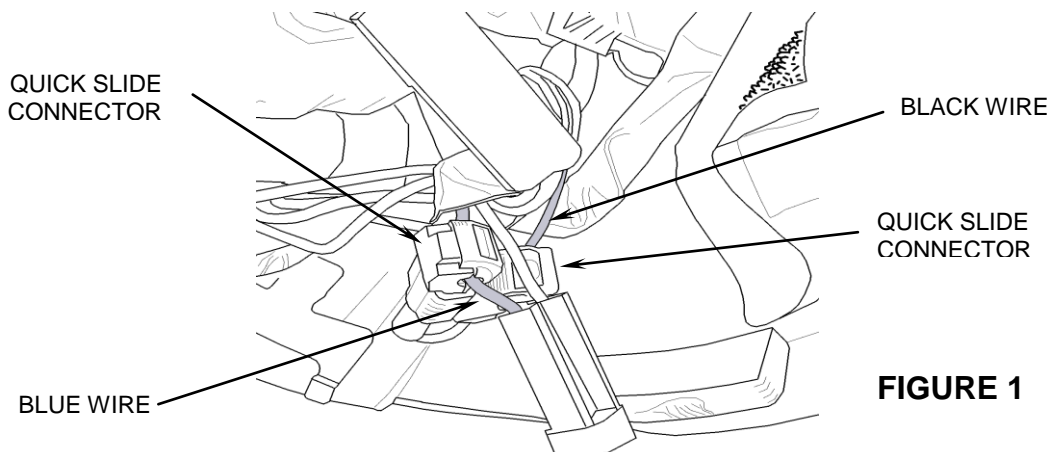

FIGURE 1
4. Remove the headlight bezel assembly. Locate the BLUE wire in the left turn signal harness inside the headlight and place a quick slide on the wire. Connect the tachometer BLUE and RED wires to the BLUE wire in the left turn signal harness. (See Figure 1.)
5. Locate the BLACK wire in the left turn signal harness inside the headlight and attach a quick slide connector on the wire. Connect the tachometer BLACK wire to the BLACK wire. (See Figure 1.)